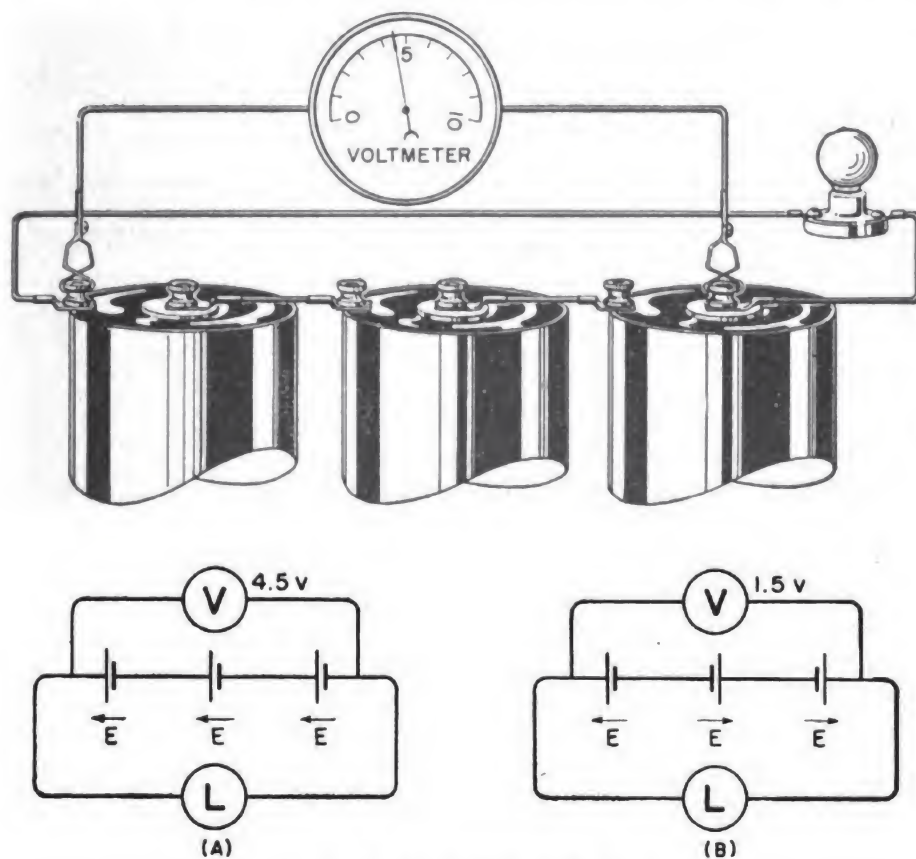

Figure 68.—Cells in series.
In (A) of figure 68, you have three dry cells in series. In (B) of figure 68, you see what happens when you connect them the wrong way.